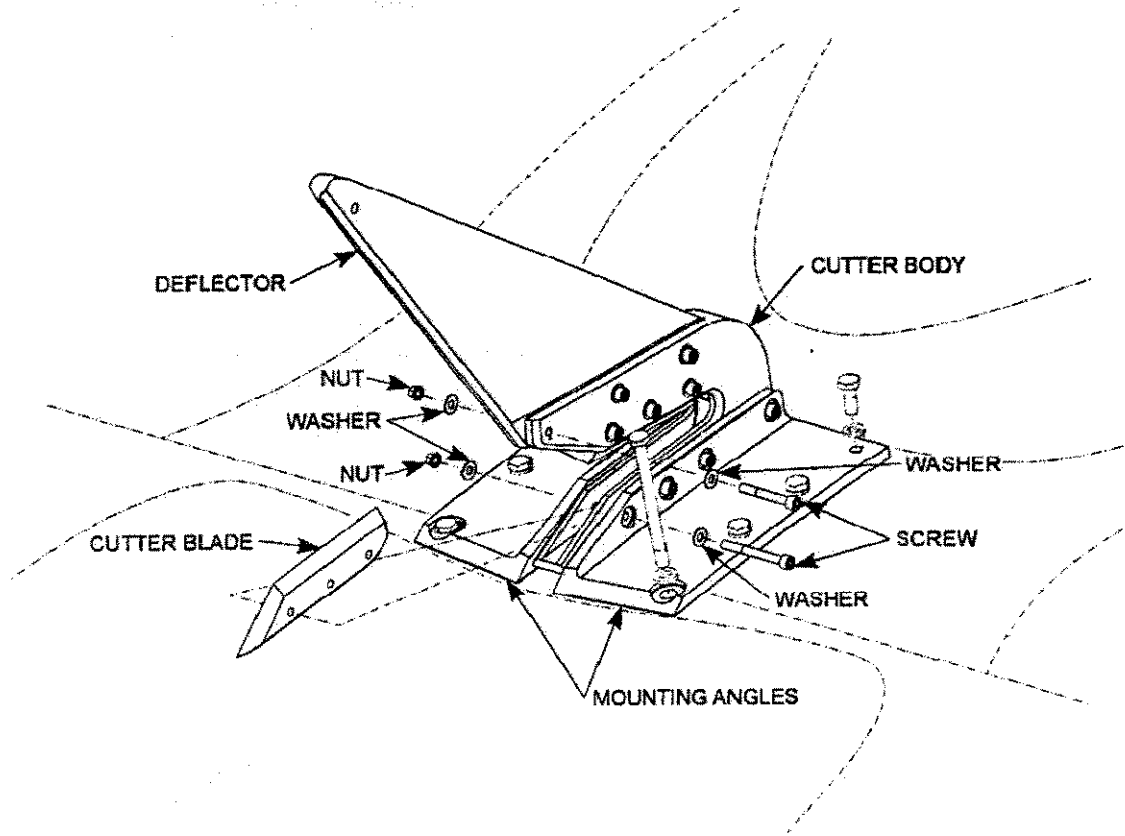

Figure 2-1 Upper Cutter Installation
2.3.2.1 Cutter Assemblies (Refer to Figure 2-1 and 2-2)
2.3.2.2 Deflectors (Refer to Figure 2-1 and 2-2)
2.3.2.5 Cutter Bodies (Refer to Figure 2-1 and 2-2)
2.3.4.2 Deflectors (Refer to Figure 2-1 and 2-2)
2.3.4.3 Mounting Angles (Refer to Figure 2-1 and 2-2)
2.3.4.4 Cutter Body (Refer to Figure 2-1 and 2-2)
2.3.4.5 Cutter Assemblies (Refer to Figure 2-1 and 2-2)
2.4.2 Removal: (Refer to Figure 2-1 and 2-2)
2.4.4 Installation: (Refer to Figure 2-1 and 2-2)